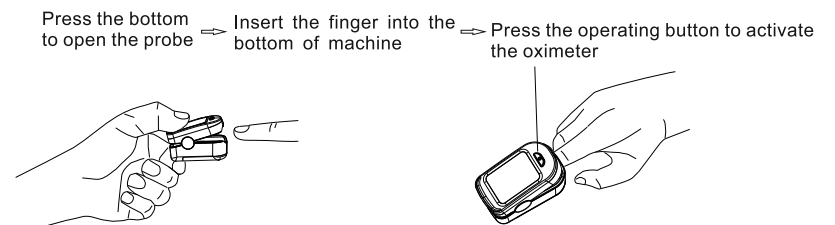

Figure 4. Operation Guide
- Hold the oximeter with the display facing toward you, slide your finger into the opening probe of the device, as shown below (Figure 4), until the fingertip touches the built-in stop guide. For best results, make sure the finger is centered with in the finger guide.